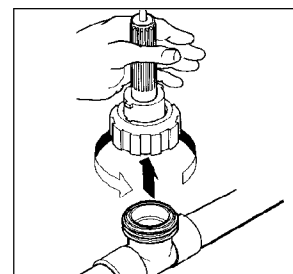

FIGURE 14
2. Close isolation valves and relieve pressure on the system by opening the sample valve. Remove sensor from flow assembly by unscrewing coupling ring. Pull sensor straight up with no side motion to prevent breakage (see fig. 14). Rinse and then inspect sensor. If deposits or fouling is present, clean sensor per instructions in Section 10, Maintenance, pg. 50.
1. Close isolation valves and relieve pressure on the system by opening the sample valve. Remove sensor from flow assembly by unscrewing coupling ring. Pull sensor straight up with no side motion to prevent breakage (see fig. 14) Inspect sensor, if deposits or fouling is present, clean sensor per instructions in Section 10, Maintenance, pg. 50.